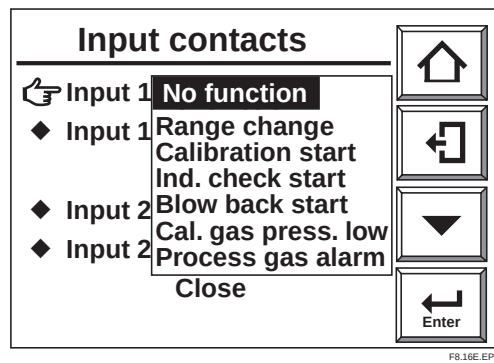

Fig. 8.16 Contact Input Setting display
- 4) Select [Input 1] . Function Selection window (Fig 8.16) appears.